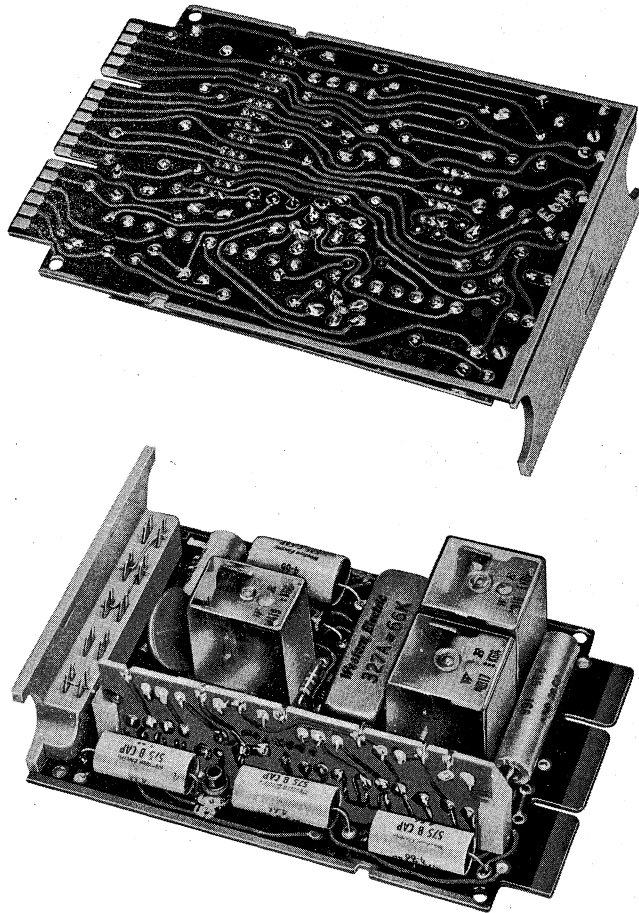

Fig. 3 — 400D Key Telephone Unit
2.11 The 400D is functionally similar to the 400A, B, and C KTUs (Fig. 3). In addition to the option features of earlier KTUs, the combination option block and finger-grip handle of the 400D provide the means for field installation of a resistor to reduce the short time-out interval, if required.